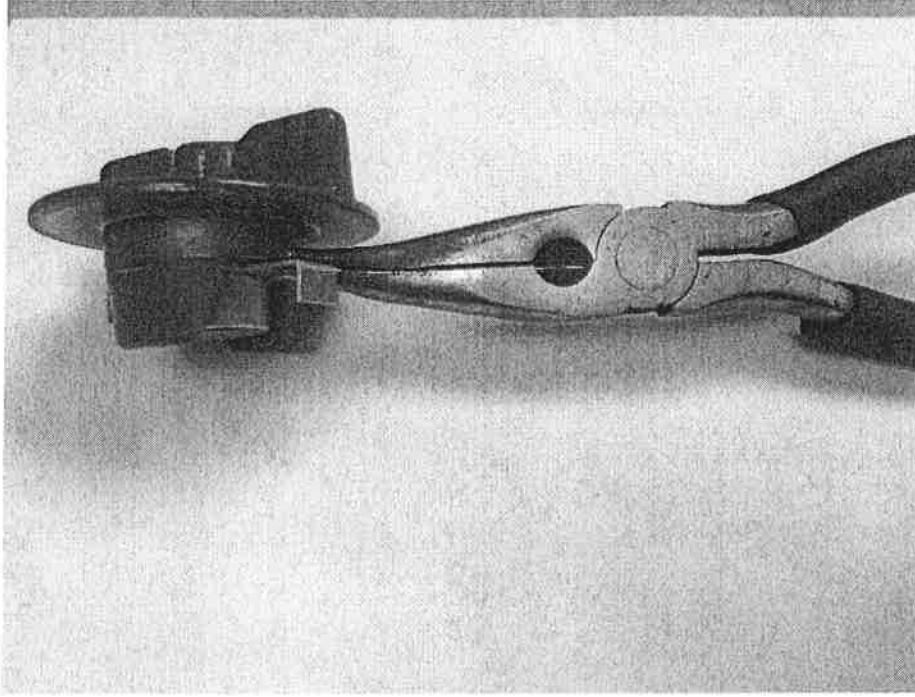

FIGURE 4 – Fuel Cap Spring Adjustment
- g) If operation torque is not acceptable, a slight bending of spring may be necessary. (This can be accomplished using a small needle nosed pliers or adjustable wrench being careful to not affect the check valve. See Figure 4)